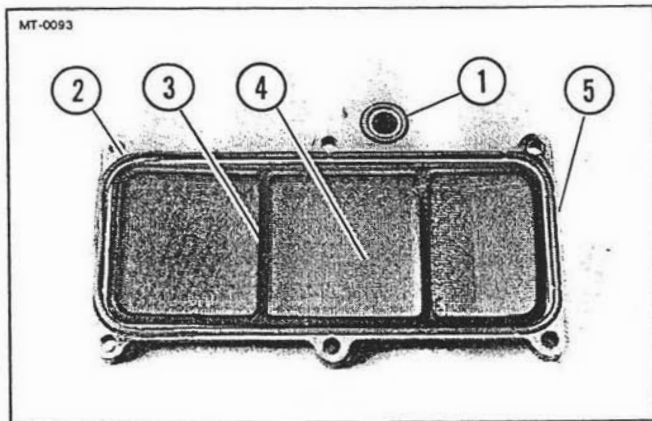

Figure 3-10. Sieve Cover O-Ring and Seal
6. See Figure 3-10. Remove and discard O-ring (1) and rectangular seal (2).
7. Remove three-compartment gasket (3) and screen (4) from sieve cover (5). Do not discard gasket. It can be reused if it is not broken or damaged.
2. See Figure 3-10. Install screen (4) and gasket (3) onto cover (5). Install a new rectangular seal (2) and a new O-ring (1) onto cover. If seal will not stay in groove in cover, apply a thin film of bearing grease to keep it in place.